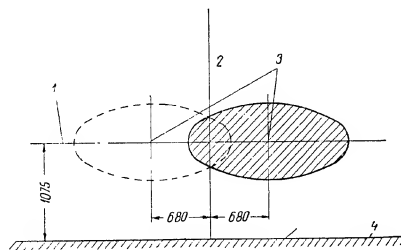

Fig. 39. Headlamp aiming chart
3. Cover one lamp, loosen support nut of the other headlamp, and aim this lamp so that the beam pattern (hot spot) is located as shown in Fig. 39; then tighten the nut.